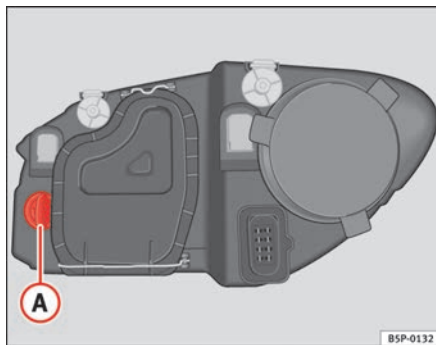

Fig. 183 Turn signal lamps
- Rotate the lamp holder ⇒ fig. 183 **A** to the left and pull.